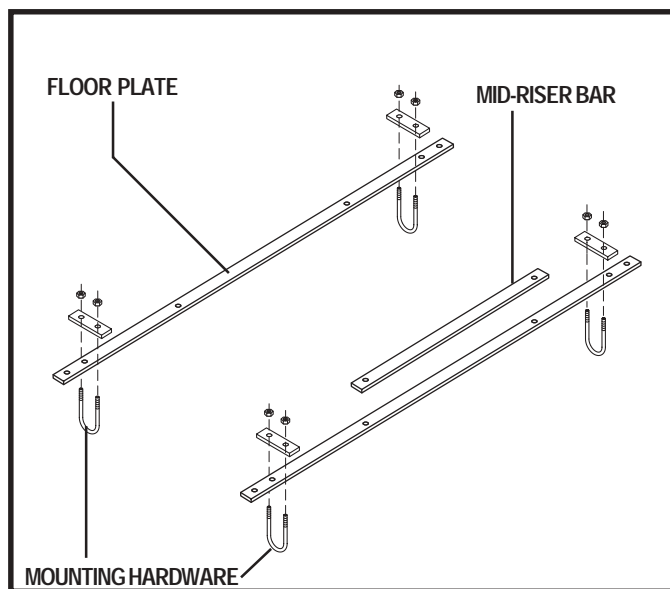

Figure 1. Basic Securement System Installation
3. Position a securement system floor plate over each set of floor locks that hold the rear seat to the floor of the vehicle. See figure 1.
4. Secure each floor plate to the floor of the vehicle using the supplied mounting hardware. See figure 1. Do not fully tighten the mounting hardware at this time.
5. Position the mid-riser bar over the floor plate closest to the rear of the vehicle, aligning the mounting holes in the mid-riser bar with those in the floor plate. See figure 1.